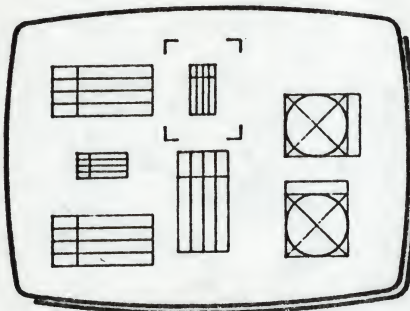

Fig 1
- 5 The composite drawing reappears, with a cursor frame around the last unit planted (Fig 1).